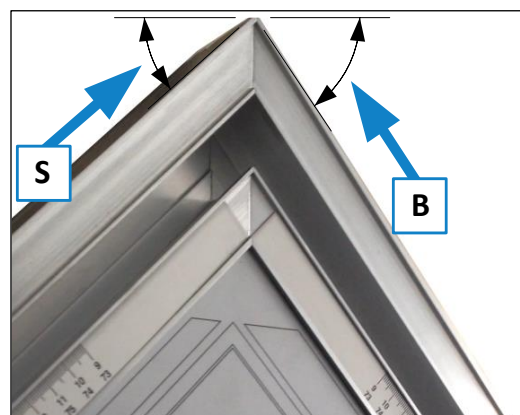

Figure 8: Angles for wrong mitres
This automatically results in the correct angle to the saw blade for the narrower workpiece (S) on the left side of the DSG-D and for the wider workpiece (B) on the right (refer ⇒ Figure 8).